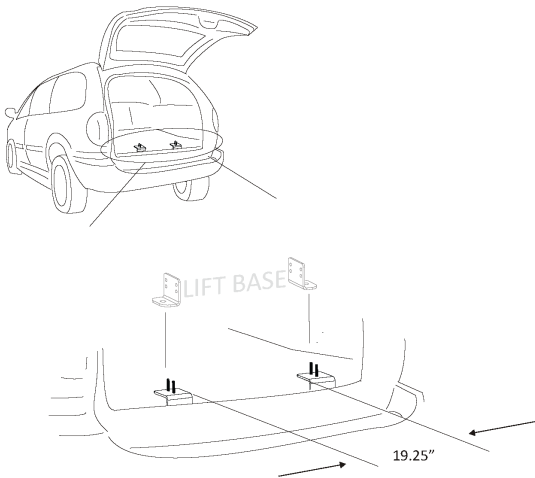

Figure 4-30
- Verify that the top of the top leg assembly are visible over the threshold. Space the top leg assemblies about 19 1/4" apart as indicated for the lift base. *See Figure 4-30.*